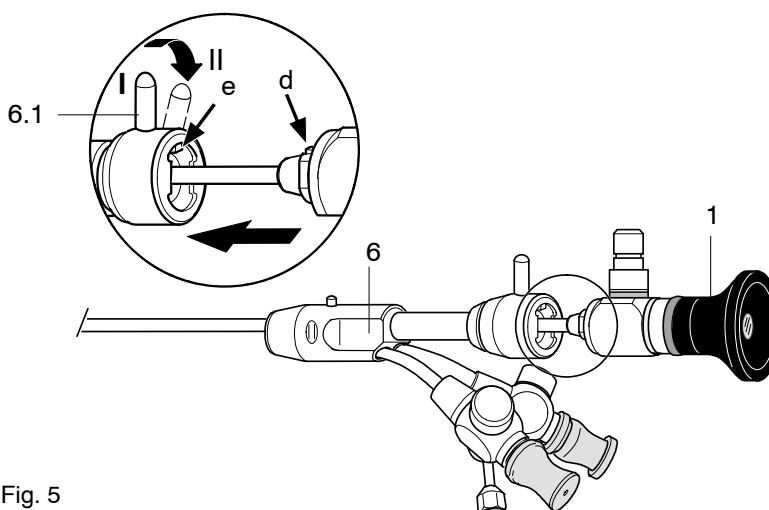

Fig. 5
6.1.3 Inserting endoscope in attachment/insert (Fig. 5)